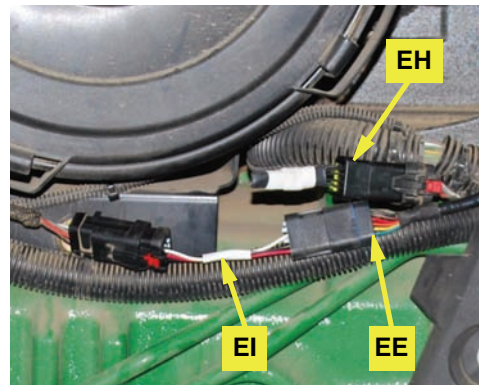

Figure 2d: Installed phantom plug and connected WAS adapter and WAS cable
- e. Install the male phantom plug **EH** in the tractor's disconnected female WAS wire connector (Figure 2d - upper connection).
Install WAS adapter **EI** between the tractor's disconnected male WAS connector and routed WAS cable **EE** (Figure 2d - lower connection).